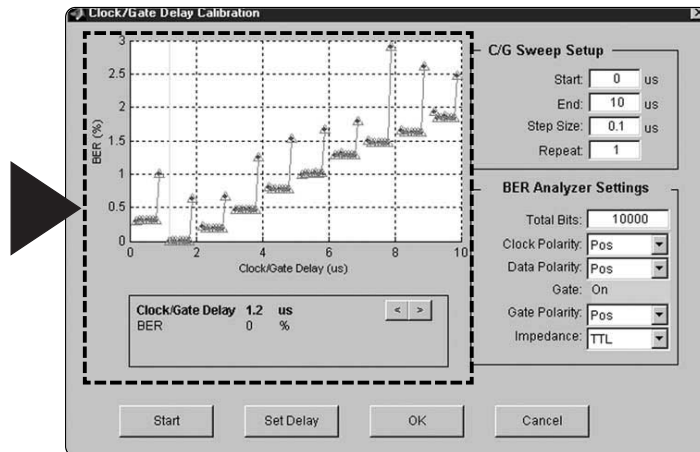

Figure 46. BER vs. Clock/Gate Delay calibration results.
7. After the plot has been generated, a marker is automatically placed at the clock/gate delay setting that yields the minimum BER, Figure 46. Notice that the plot looks similar to a step function. With no impairments added to the signal, there is a range of approximately 1/2 a symbol period that yields the same BER results. In this case, the marker is placed at the first BER minimum. When impairments are added to the signal, the plot no longer looks like a step function. Instead, it looks like a series of parabolas, from which a true minimum can be found. By initially performing the calibration without impairments added to the signal, the clock/gate delay range for optimum BER can easily be determined. As a result, when later performing clock/gate delay calibration on an impaired signal, the sweep range can be adjusted accordingly.